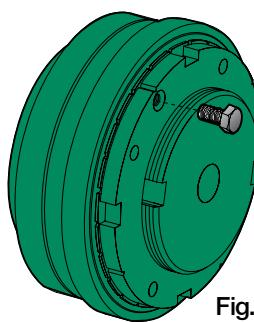

Fig.6
Put soft Loctite on the securing screw (8) and tighten it (fig.6) in the threaded hole (G) of the nut (7), in correspondence to one of the holes (H) on the locking washer (10).